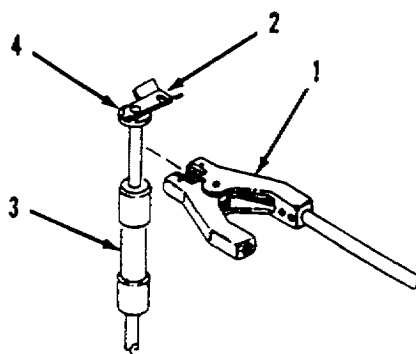

Figure 2-17. Ground Rod Removal.
- a. Ground Rod Removal. Refer to figure 2-17.